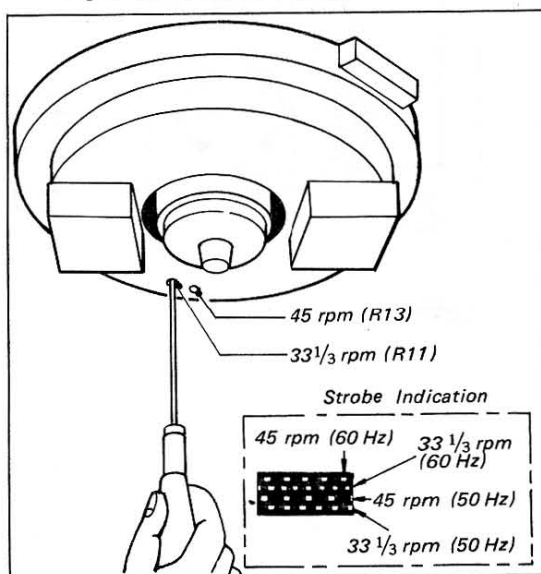

Fig. 3-1. Speed adjustment
2. Set the $33\frac{1}{3}/45$ control to the 45 position, and then turn adjustable resistor R13 (See Fig. 3-1) to obtain the correct indication.
3. After completing the 45 rpm adjustment, proceed to the $33\frac{1}{3}$ rpm adjustment as previously described, except turning adjustable resistor R11 (See Fig. 3-1).